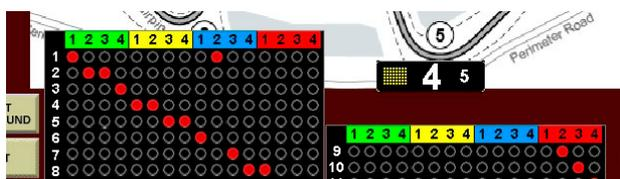

Figure 5 - iTSL Linked Turn Groups
iTSL TURNS - This function is used to group iTSLs together so all iTSLs in a turn group will always display the same flag when one of the iTSLs is selected. For tracks with difficult corners requiring multiple lights to effectively alert drivers, multiple safety lights can be grouped together to function as a single safety light. Sixteen (16) different turns are available designated as turn1 through 16. Notice in Figure 5, there are two turn group tables at the bottom of the screen